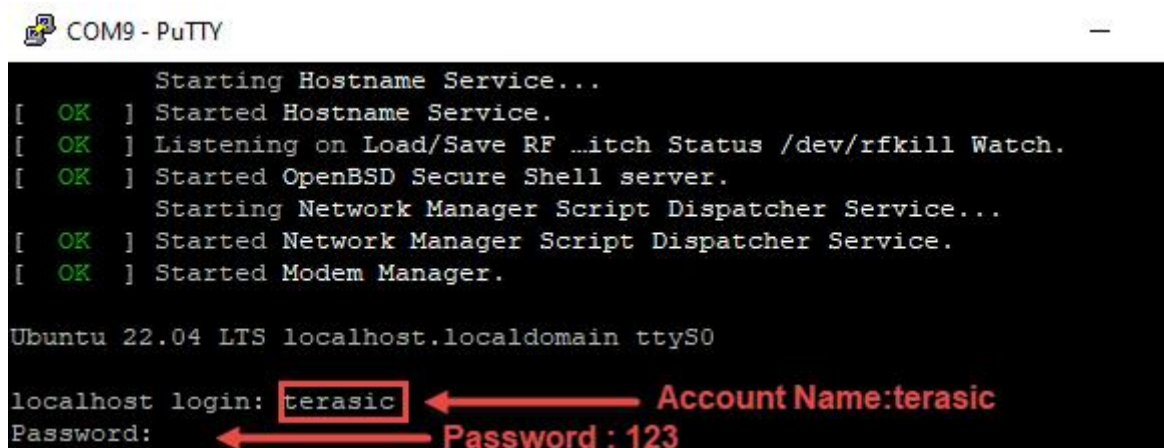

Figure 1-9 Putty Window
4. After the board is successfully booted, the Linux will ask for the login name. Type "**terasic**" for account name and type "123" for the password (See **Figure 1-9**).